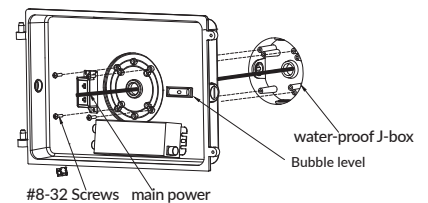

Figure 3
- Bring the main power wires through the rear hole into the fixture. Line up the rear housing in the desired location. Built-in level bubble provided to facilitate mounting alignment. Lock it securely to the water-proof Junction Box with screws through points A/B/C/D. (Figure 3)